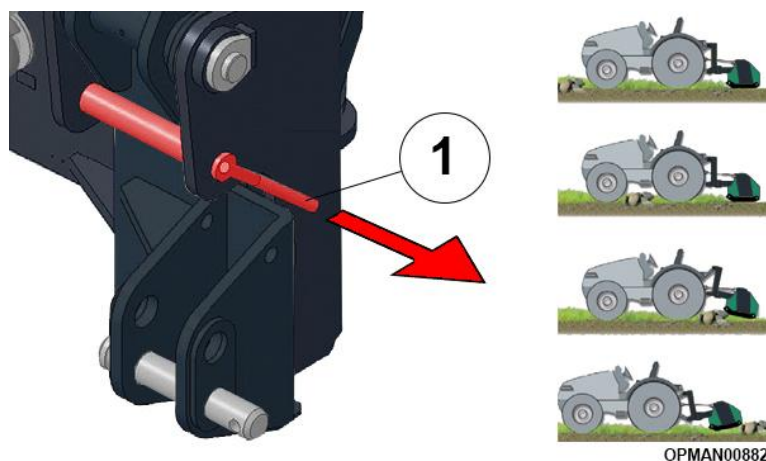

Figure 10
Sniper HD Offset machines feature a removable pin near the mounting point of the parallel arms to the headstock (Figure 10 (1)). It is important to remove this pin to allow the machine to float correctly and allow the machine to be able to follow ground contours more effectively, giving better operation and final finish of the cut material.